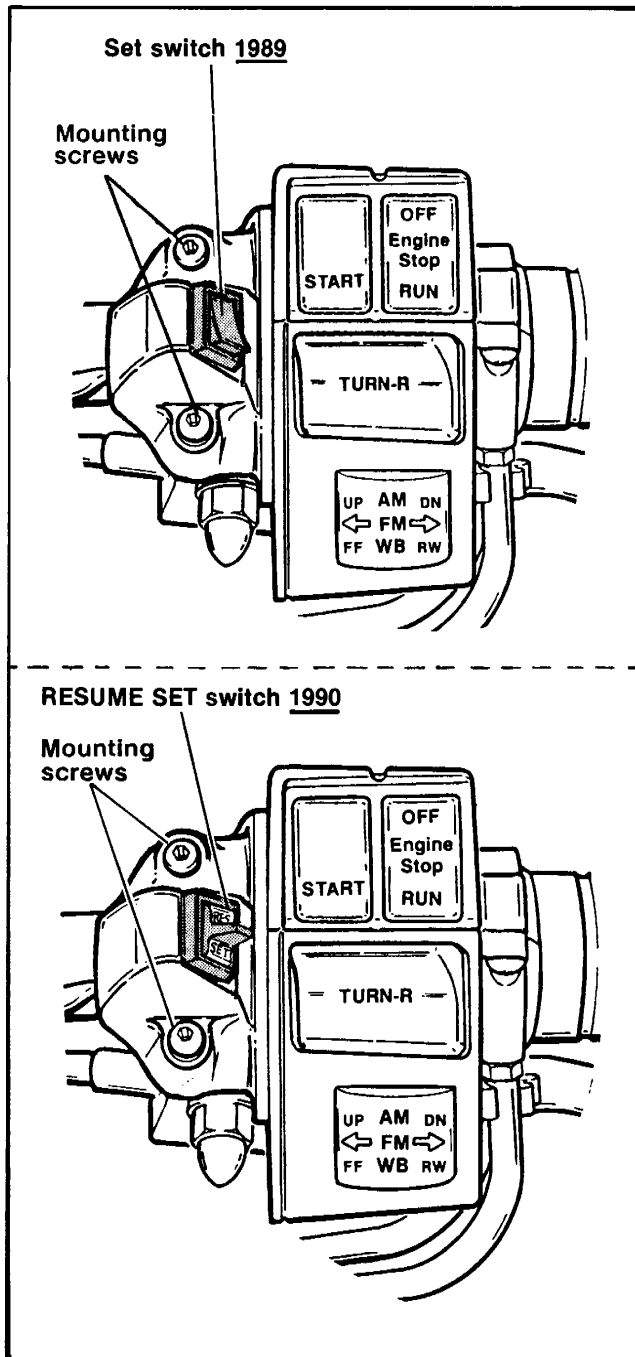

Figure 8-44. Cruise Set Switch
1. See Figure 8-44. To remove set switch, remove two screws clamping control housing to handlebar and remove switch.